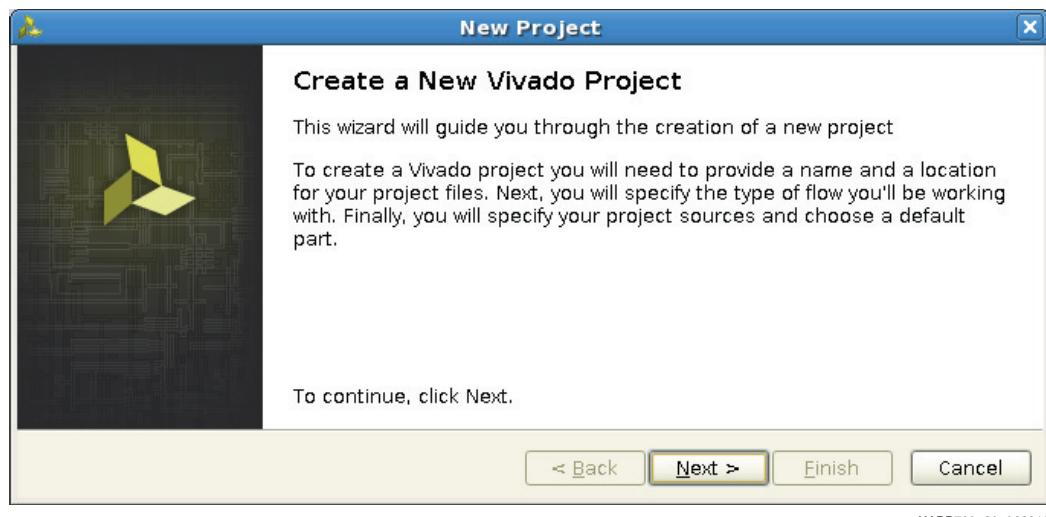

Figure 20: New Project Window
5. In the New Project window, click **Next** (Figure 20).